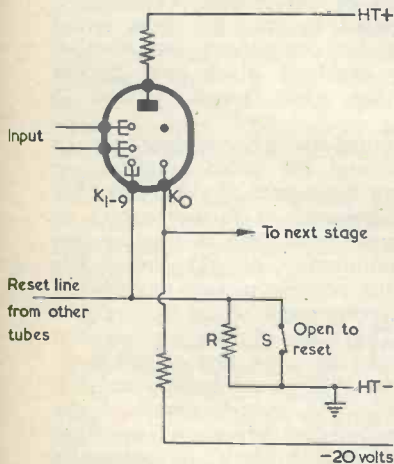

Fig. 6. A circuit which enables the tubes to be reset to zero
In most circuits it is desirable to be able to reset the decade tubes to zero. This can be carried out in the circuits of Figs. 3, 4 and 5 by returning the cathodes 1 to 9 of all tubes to a common negative reset line separate from the earth line. (See Fig. 6.) This negative line is connected to earth via a resistor (R) which is normally short-circuited by a switch. During the resetting operation the switch is opened so that all of the main cathodes except the zero cathodes rise in potential.